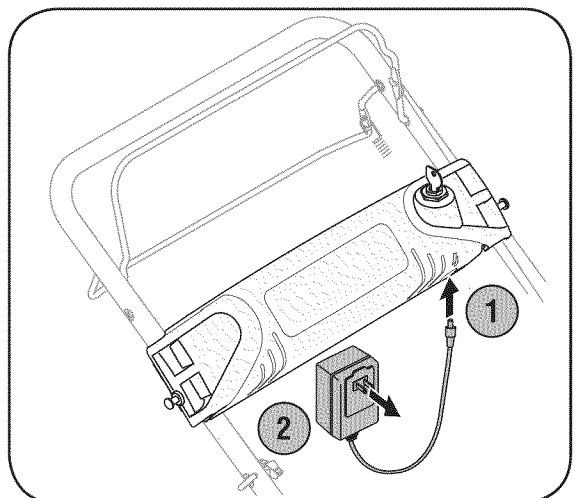

Figure 10
1. Plug the battery charger into the port on the underside of the battery housing, Figure 10.
2. Insert the battery charger plug into a standard 120 volt household outlet, Figure 10. Charge battery for 8 to 10 hours before initial use. **Do not charge longer than 12 hours.** The battery should only need to be charged upon initial setup and after any other extended periods of non-use.